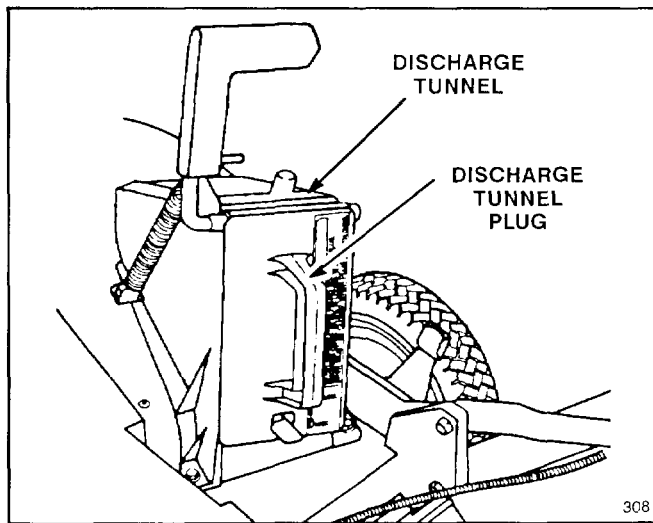

Figure 20
1. **Rear Bagging Kit , Model No. 59174**—Install discharge tunnel and rear mounting grass bag to convert Recycler® mower to a rear bagging mower (Fig. 20). Includes discharge tunnel plug.